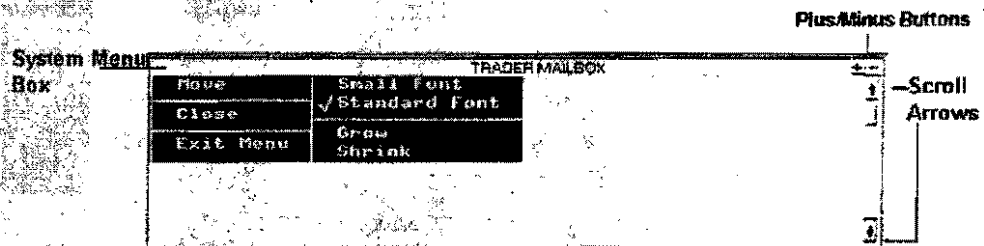

Figure 1.6 Trader Mailbox with Popup System Menu
Click the system menu box in the window title bar. The popup System menu shown in Figure 1.6 displays. Click Grow or Shrink in the System menu to increase or decrease the window size. Repeat until the window is the desired size.
With focus in the window (title bar is gray), press  to display the System menu shown in Figure 1.6. Use the  or  to highlight Grow or Shrink.
When a window shrinks so all lines do not display, scroll bars appear. (See Figure 1.6.) Click the Up or Down Scroll Arrows to bring additional lines into view.
1. Press  to display the System menu shown in Figure 1.6. (Focus must be in the window.) Use  and  to highlight Move. Press . The mouse pointer changes to .